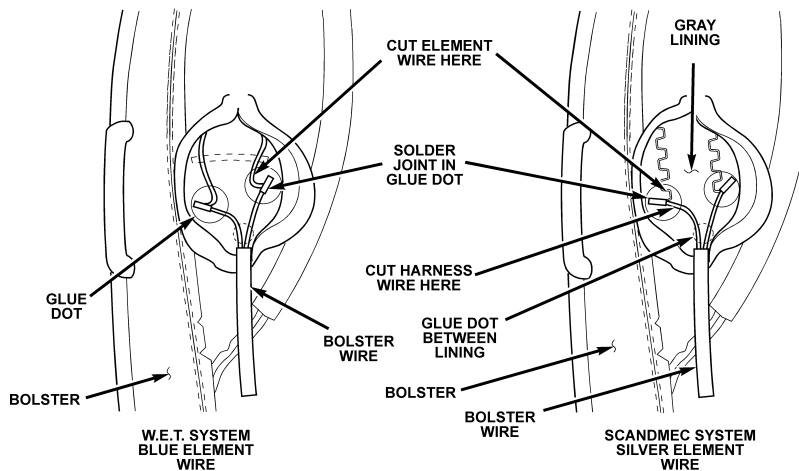

Figure 3
9. There were two types of heating element used in production (See Figure 3). One has insulation on the wire and one does not. If the element has insulation on the wire, carefully strip one inch of the insulation from the element to allow for soldering. Pull the elements away from the cover enough to clear the foam for soldering. Trim the foam as necessary to provide adequate clearance for soldering.